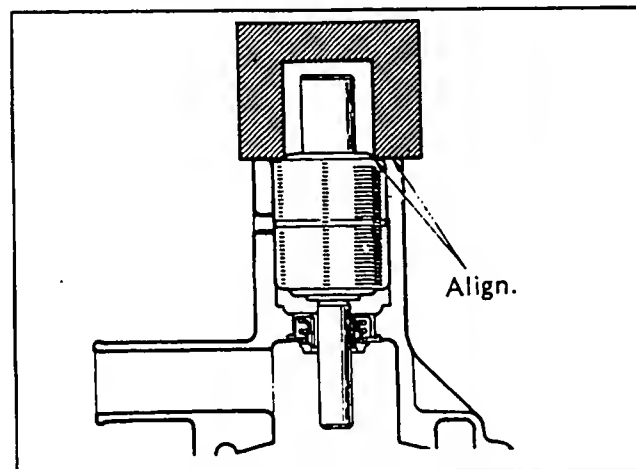

Figure 4. Pump Alignment
3. Align the pump case end face with the bearing end face, as shown in Figure 4.